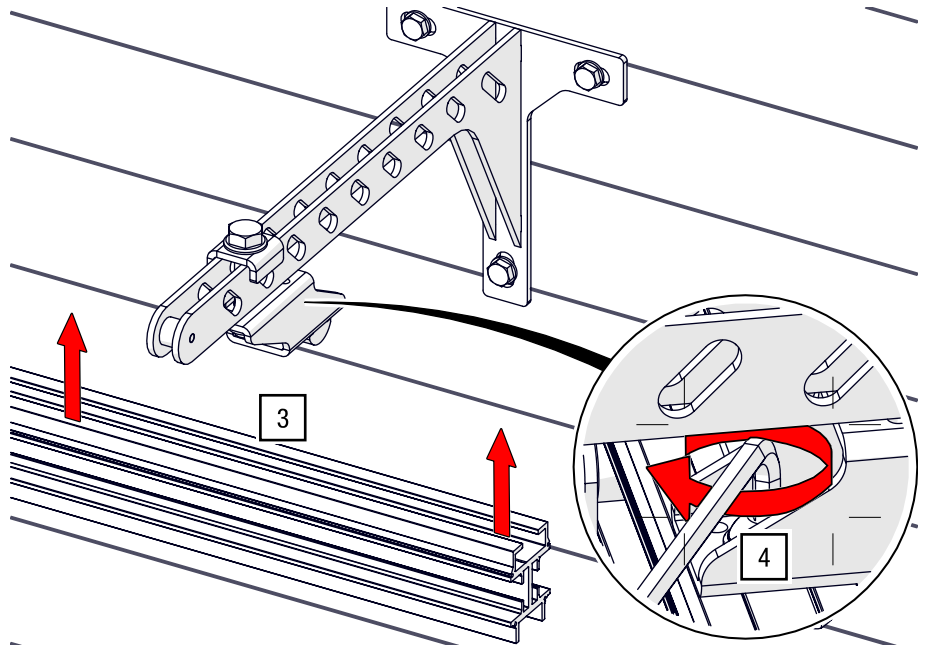

Fig. 57: Wall mount bracket – Pre-assemble screws with T-slot nut
3. Lift the pre-assembled track profile to the wall mount bracket and insert the T-slot nuts into the track slot (see Fig. 57).
4. Screw them in with an Allen key AF 8 (see Fig. 57).